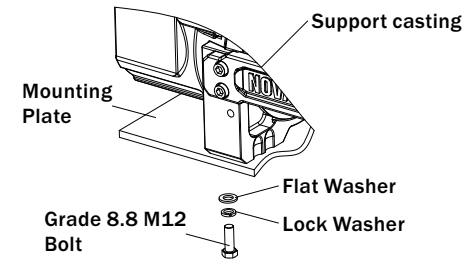

Figure 4
3. The winch should be secured to the mounting with Grade 8.8 M12 bolts and spring washers provided (see Figure 4).